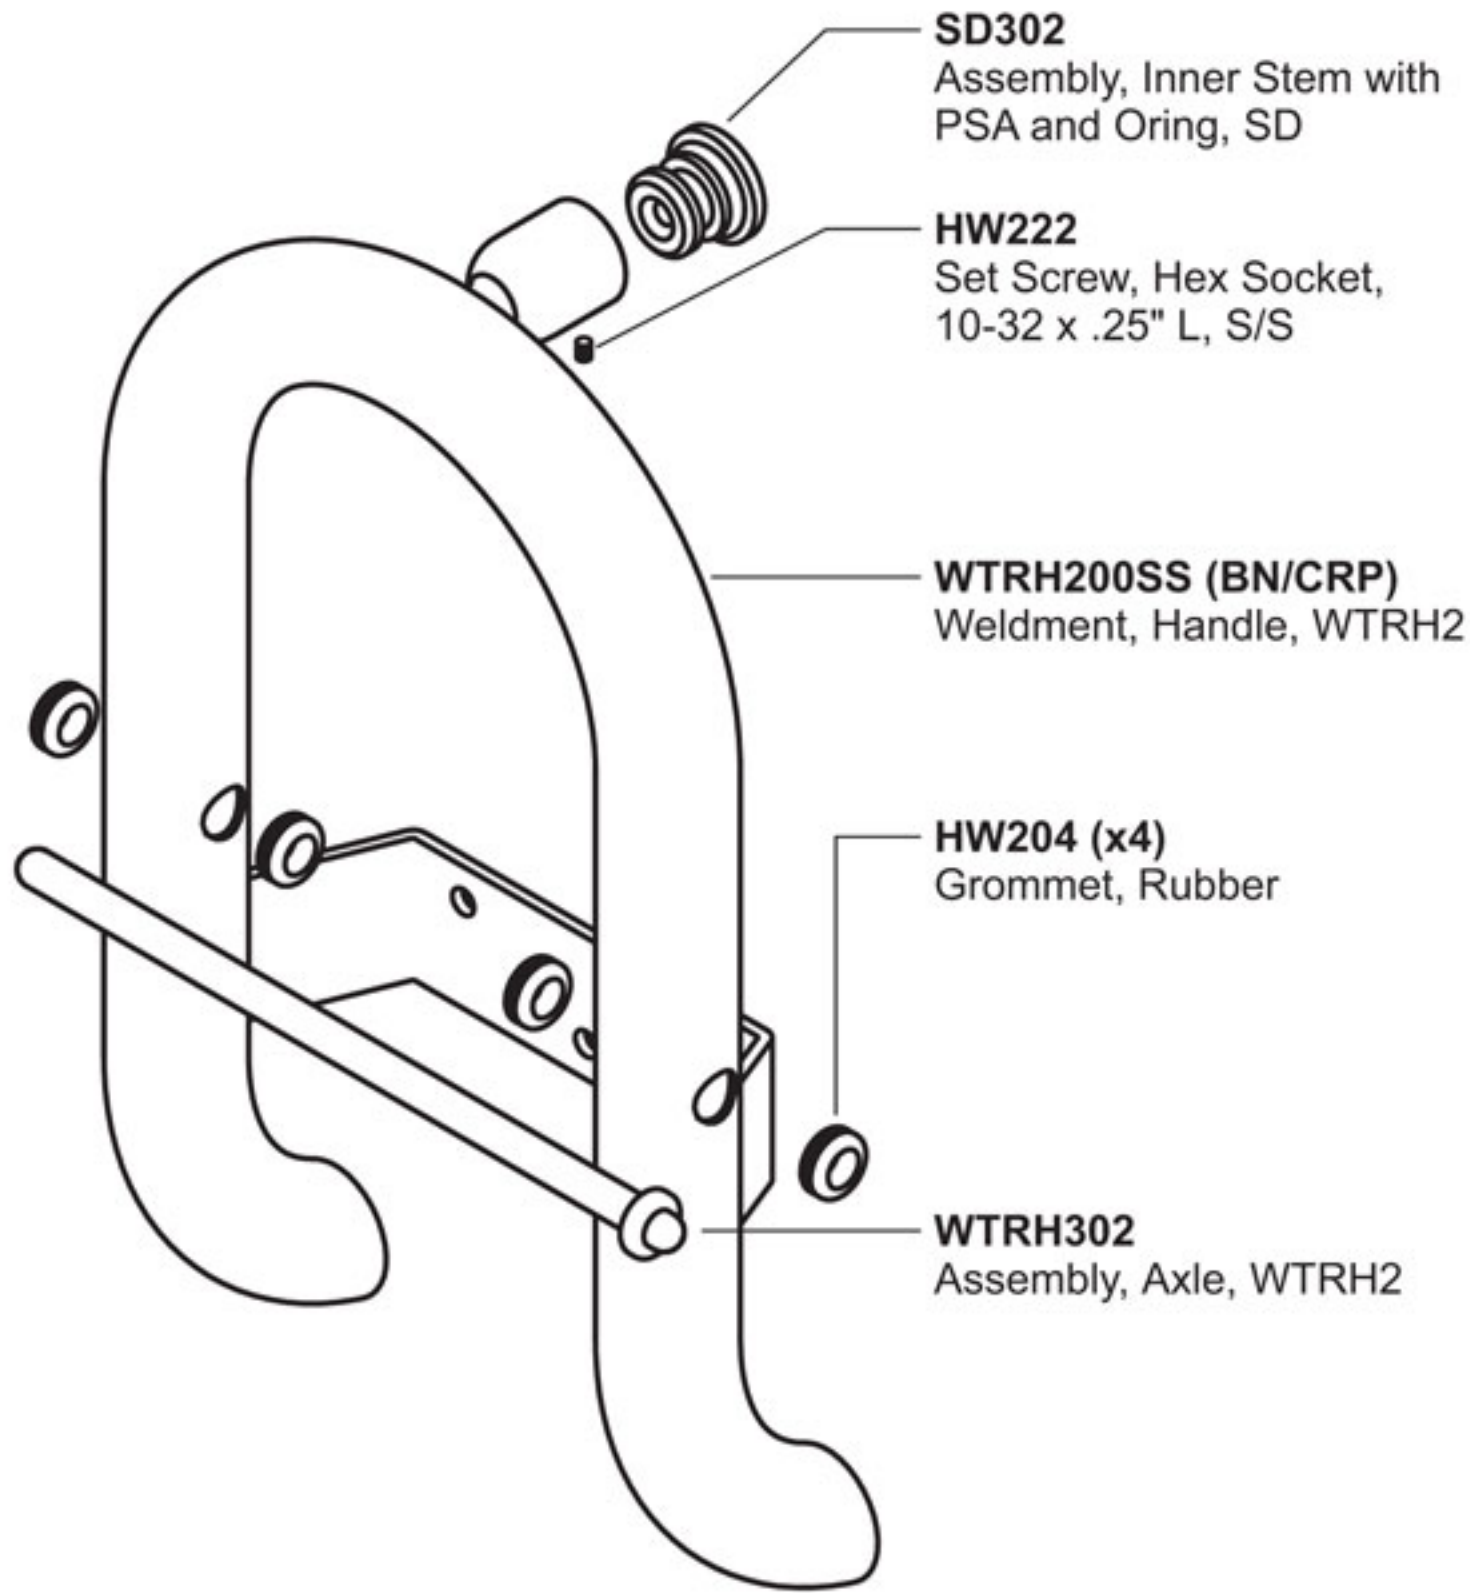

**FIGURE 3: ALTERNATIVE TO SUPPORT FRAME - MULTI-LAYER PLYWOOD INSIDE WALL WITH WALLBOARD PATCH (TOP VIEW)**
3. Fabricate a support frame structure from suitable wood pieces as shown in **Figure 2a**. Support frame width (D) should fit snugly within wall studs. Support frame height (E) should be from 24-32" (61-81cm) high or more, depending on material and stiffness of wall studs. Locate top cross member (F) to position in line with top rail stem when rail is located at the height (H). Lower cross member (G) should be spaced at C = 8.25" (21cm) center to center from top cross member. Hold the support rail against the support frame to confirm the cross members are in the correct location. Use a generous quantity of wood screws and glue to hold the support frame structure together as shown. See alternative to support frame as shown in **Figure 3**.